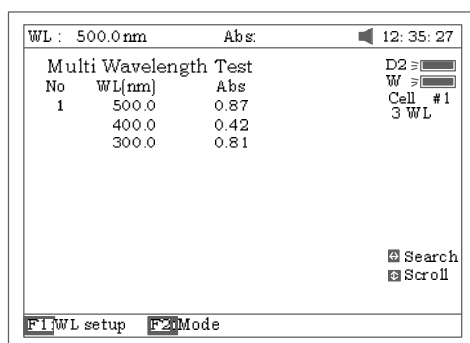

Fig 71
4. Pull the sample cuvette into main light path, press **【START】** to test. The test results will be displayed on the screen (Fig 71).